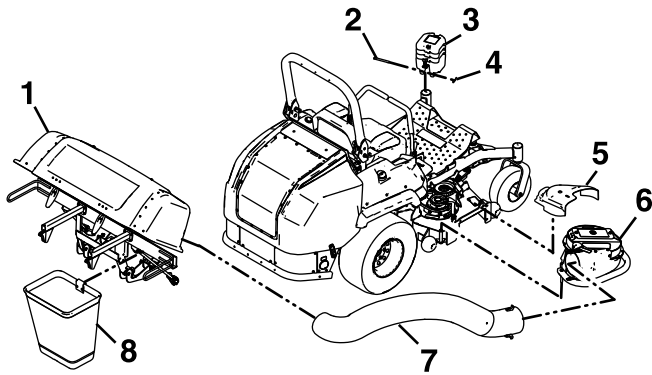

Figure 23
6. Remove the discharge tube by releasing the latches at the blower. Slide the tube off the blower outlet and remove the upper end from the hopper (Figure 23).